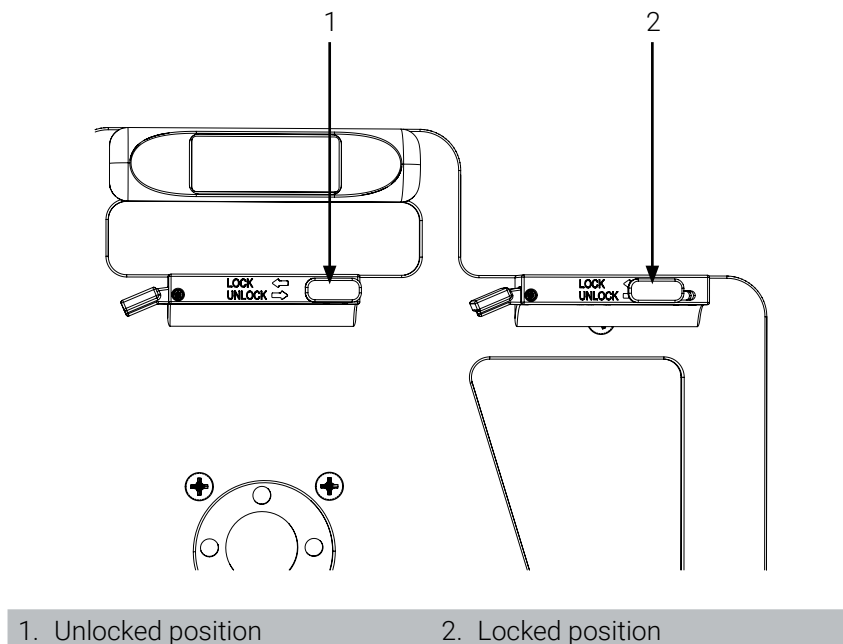

Figure 2: Infusion pump holder in locked and unlocked positions
1. Ensure that the infusion pump holder is unlocked. If locked, Move the lock/unlock slider button to the right to unlock it (Figure 2).